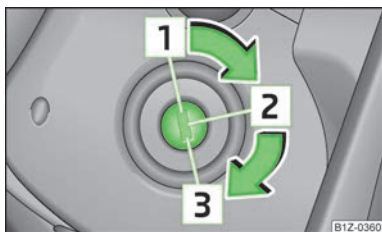

Fig. 94
- When driving, the ignition key must always be in the position **2** » Fig. 94 on page 93 (ignition switched on) without the engine running. This position is indicated by the warning lights coming on. If this is not the case, it could result in unexpected locking of the steering wheel - risk of accident!
- The starter may only be operated (ignition key position **3** » Fig. 94 on page 93), if the engine is not running. The starter or engine can be damaged if the starter is activated when the engine is running.
If the **steering is locked** and the key cannot or can only be turned with difficulty into the position » Fig. 94, move the steering wheel back and forth and the steering lock will unlock.
- Fully depress and hold the clutch pedal, switch on the ignition » Fig. 94 on page 93 and start - do not operate the accelerator. Depress the clutch pedal until the engine starts.
Switch off the engine by turning the ignition key into position » Fig. 94 on page 93.